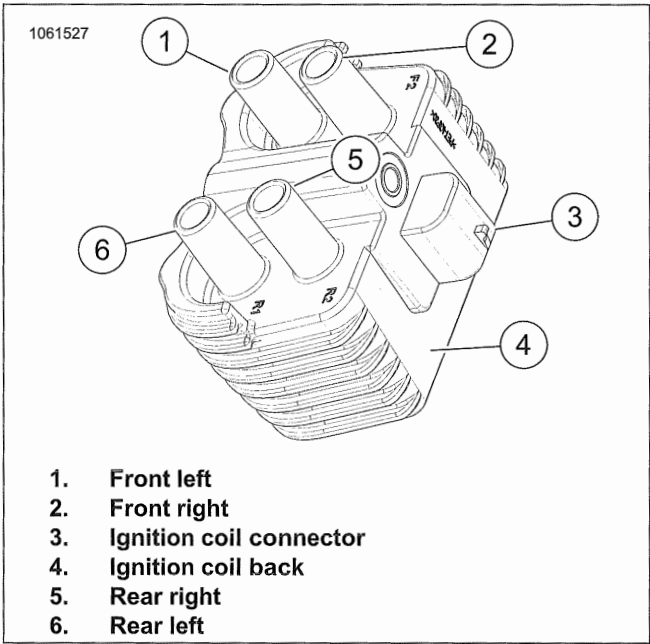

Figure 7-13. Ignition Coil Connector
- 1. See Figure 7-13. Disconnect ignition coil connector (3).
- 3. Connect spark plug cables (1). See SPARK PLUG CABLES (Page 7-13)
- 4. See Figure 7-13. Connect ignition coil connector.